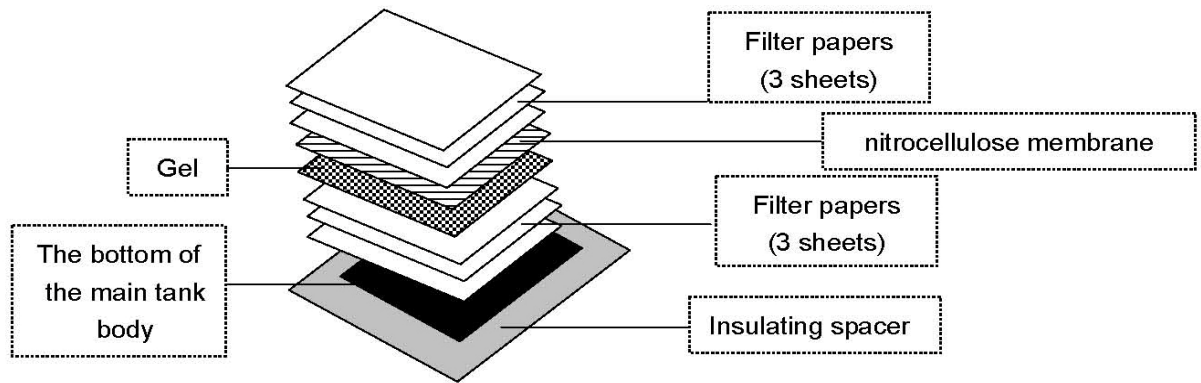

Figure 2
5. Then place the gel on it (Proteins bind to the membrane as soon as contact occurs, so it is important to place the gel correctly on the first try) and put the nitrocellulose membrane again, and finally, put the last 3 pieces of overlapped filter paper on this membrane. Please refer to figure 2.